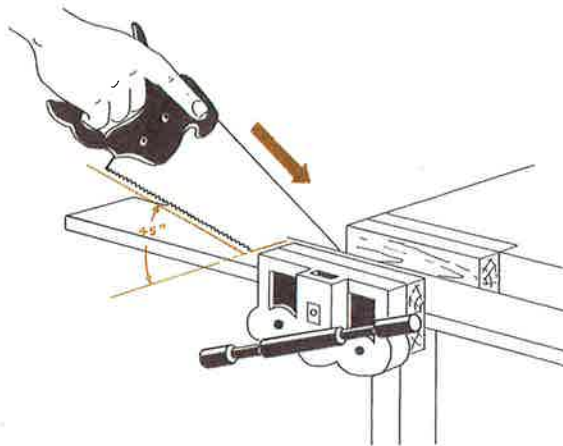

Fig. 8-15. Proper angle of the saw for crosscutting.
5. Continue cutting. Use long strokes. Cut at about a 45-degree angle to the board (Fig. 8-15). The direction of the cut may be changed by twisting the handle slightly in the direction of the line marked on the board.